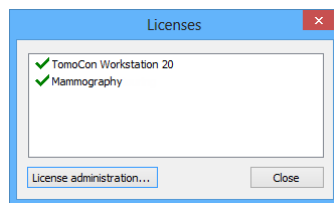

Figure 2 – Licenses dialog
2. The **Licenses** dialog (see Figure 2) listing the installed licenses will be displayed.